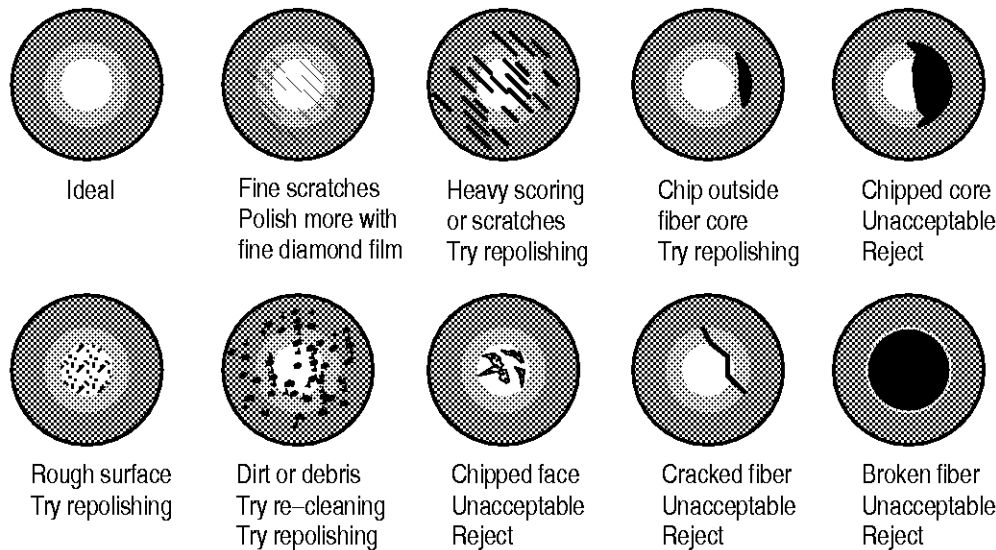

Figure 14
1. Inspect the connector with a 100x microscope. If possible, place the far end of the fiber near a bright light. Compare the fiber end to the examples shown in Figure 14 and take any recommended action.